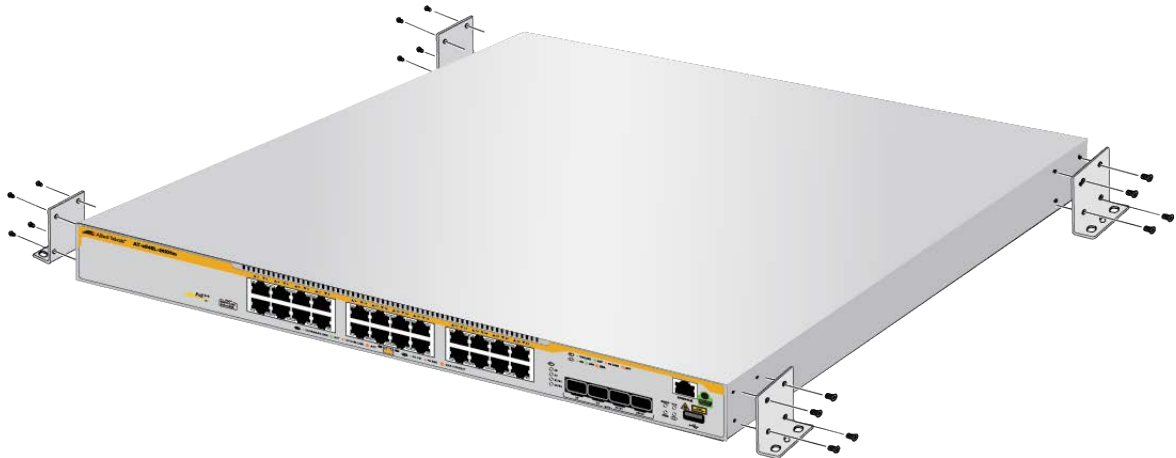

Figure 35. Installing the Brackets to the x250-28XHm Switch
5. Attach the brackets that come with the switch with the 16 screws to the sides of the unit. See Figure 35.